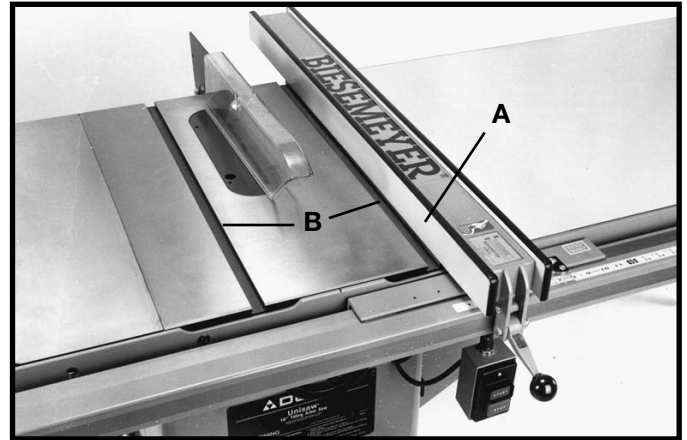
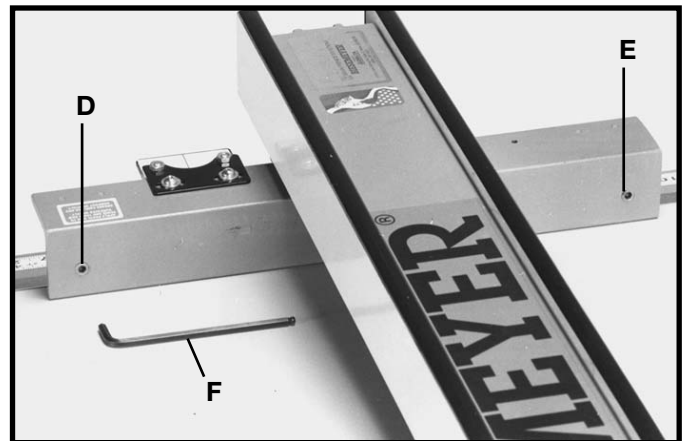

Fig. 54
Fig. 55
The fence (A) Fig. 54, must be adjusted so it is parallel to the miter gage slots (B). To check and adjust, move fence (A) until the bottom edge of the fence is in line with the edge of one of the miter gage slots as shown, and push down on the fence clamping lever (C). Check to see if the fence (A) is parallel to the miter gage slot, the entire length of the table. If an adjustment must be made, lift up fence locking lever (C) and raise fence up off the guide tube, as shown in Fig. 55. Slightly tighten or loosen one of the two adjusting screws (D) or (E) Fig. 55, using a 3/16" allen wrench (F), not supplied. Replace the fence on the guide tube and check again to see if the edge of the fence is parallel with the miter gage slot the entire length of the slot. Repeat this adjustment until you are sure the fence is parallel with the miter gage slot.